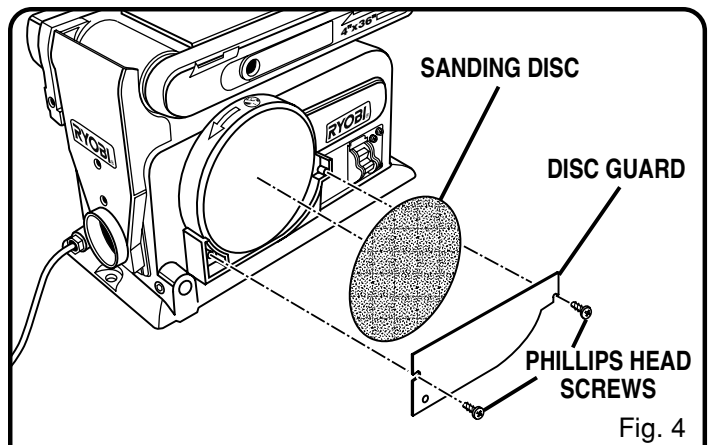

Fig. 4
See Figure 4.
- Position disc guard against the lower one-third of the disc, aligning holes as shown in figure 4.